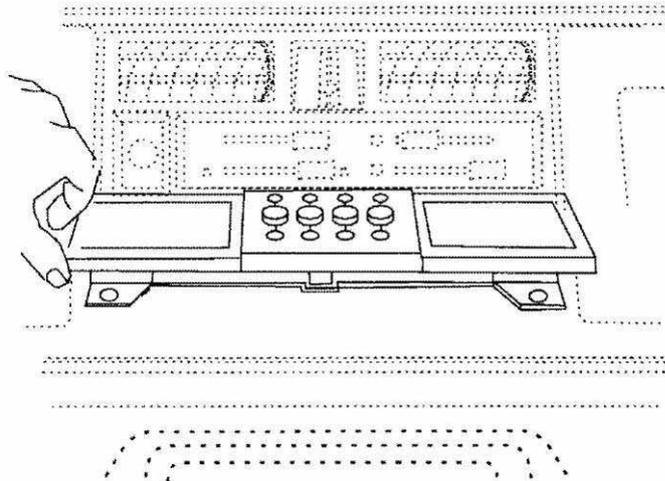

Figure 62 Cabin Vent Flap Open
**142. Cabin Vent Flap.** The cabin vent flap (Figure 62) can be opened to direct air into the cabin area in addition to air being delivered via the other vents.